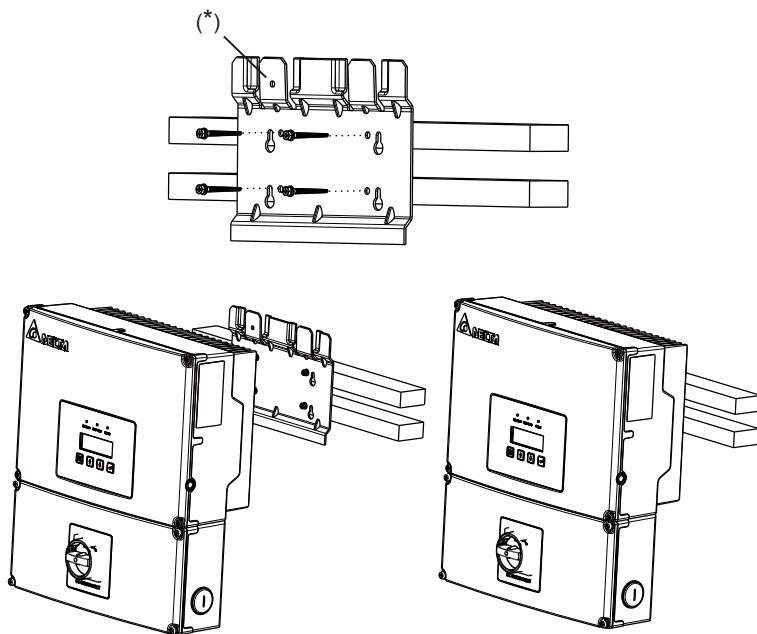

Figure 15: Installing the plate and inverter on a wood stud wall
5. With at least two persons on either side of the inverter, lift it up and place it carefully onto the mounting plate. Install two locking nuts as shown in the figure 15 to secure the device.